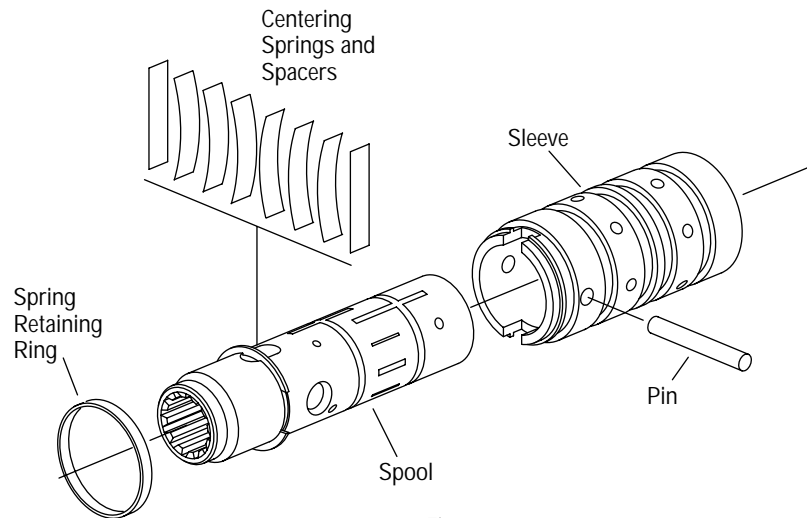

Figure 3
7 Remove the pin that holds the spool and sleeve together (see Figure 3).
- 15 Install the pin (see Figure 3).